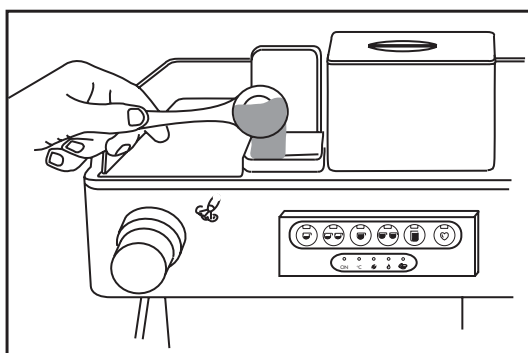

Fig. 11
- Fill the doser with one or two doses of ground coffee by using the dosage spoon (fig.11).